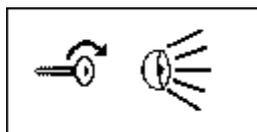
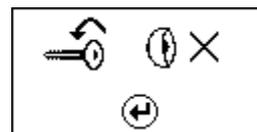

Fig.13
Fig.14
9. If the Analyser has detected any surface charge in the battery, it will prompt you to turn the ignition key to ON and switch on the headlights (Fig.13) to discharge the battery until it has reached to the next display that shows turn ignition OFF and headlights OFF (Fig.14) as display shown below and then press ↻ to continue.